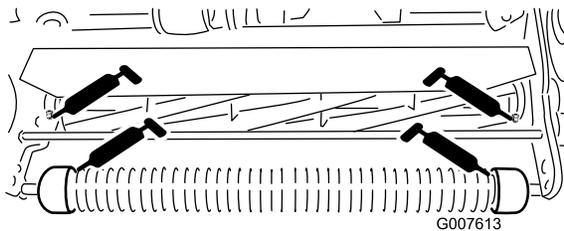

Figure 17
- 2 on the front roller (Figure 17)
- 2 on the reel bearings (Figure 17)